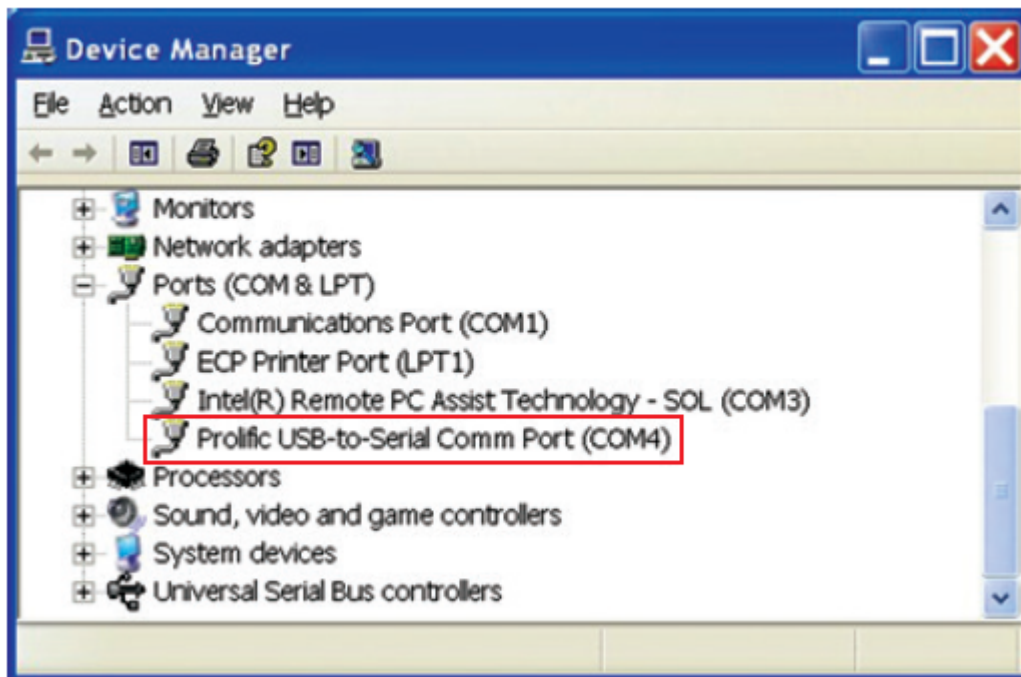

Figure 26. DS9481R-3C7+ “Prolific” COM Port
- 5) Verify correct installation of the virtual COM port by inserting the DS9481R-3C7+ into a spare USB port on the computer. Check the COM port by looking in Control Panel → System Hardware → Device Manager and expand Ports (COM & LPT). If the driver installed correctly it should be displayed, as in the example shown in Figure 26. Note that your COM port number may be different. **Warning:** The 1-Wire drivers only support COM ports up to COM15.